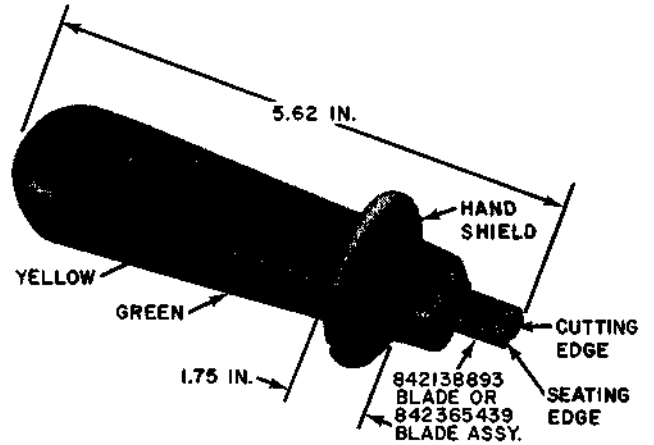

Fig. 1—714B Wire Inserter Tool
2.01 714B: The 714B wire inserter tool (Fig. 1) is used for making cross-connections on 66-type connecting blocks.